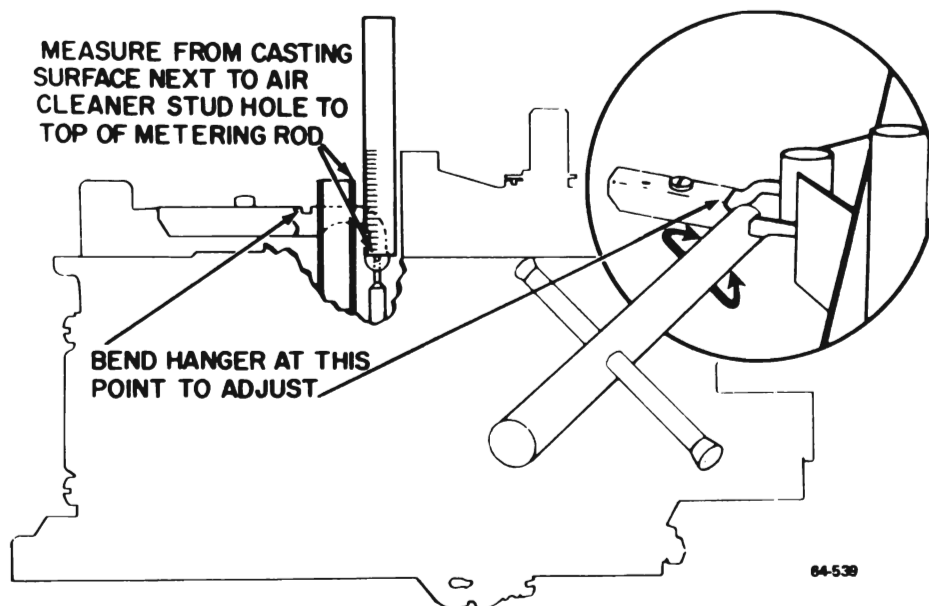

Figure 64-51 - Secondary Metering Rod Adjustment
1. Check secondary metering rod adjustment by measuring from top of each metering rod to top of air horn casting next to air cleaner stud hole. Measurement should be $53/64$ in. See Figure 64-51.
2. Adjust, if necessary, by bending metering rod hanger at point shown in Figure 64-51. Make sure *both* rods are correctly adjusted.